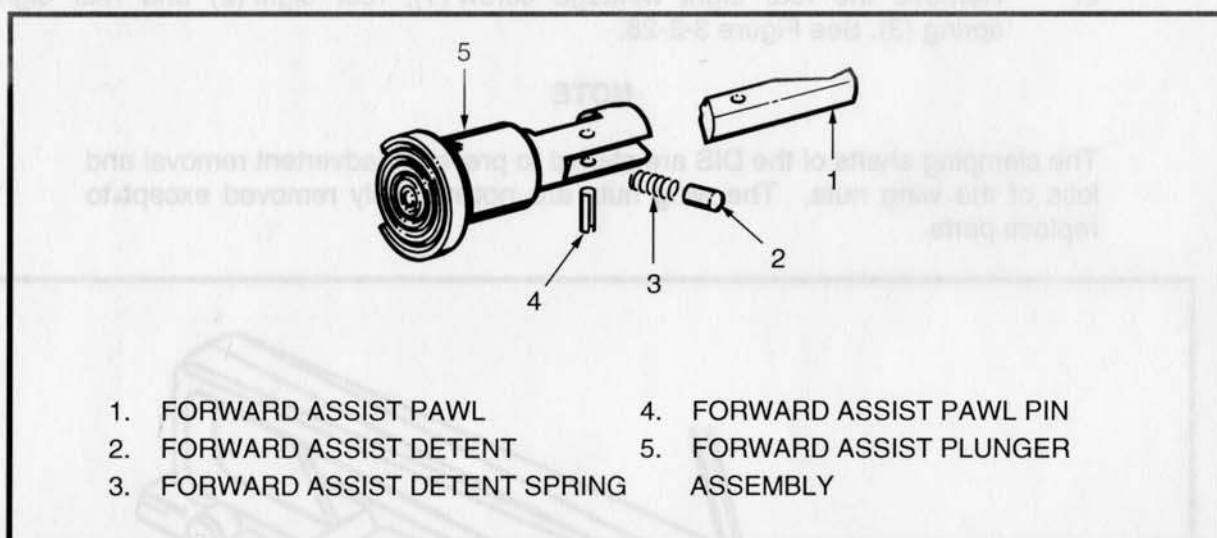

Figure 3-2-23 Disassembling the Forward Assist Assembly
18. **Disassembly.** To disassemble the forward assist see Figure 3-2-23 and proceed as follows:
- a. Drive out the forward assist pawl pin (4) with a suitable punch;
- b. Take control of the forward assist pawl (1) and remove the punch from the forward assist plunger assembly (5); and
- c. Remove the forward assist detent (2) and forward assist detent spring (3) from the plunger assembly.